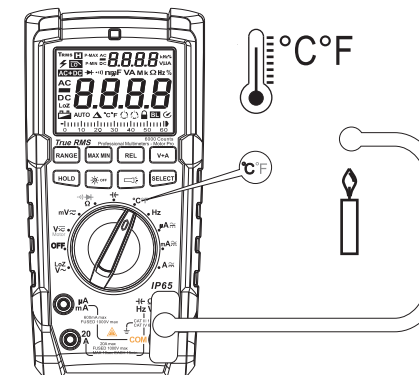

Figure 7
10. Temperature Measurement (Only for UT195M-EU) (See Figure 7)